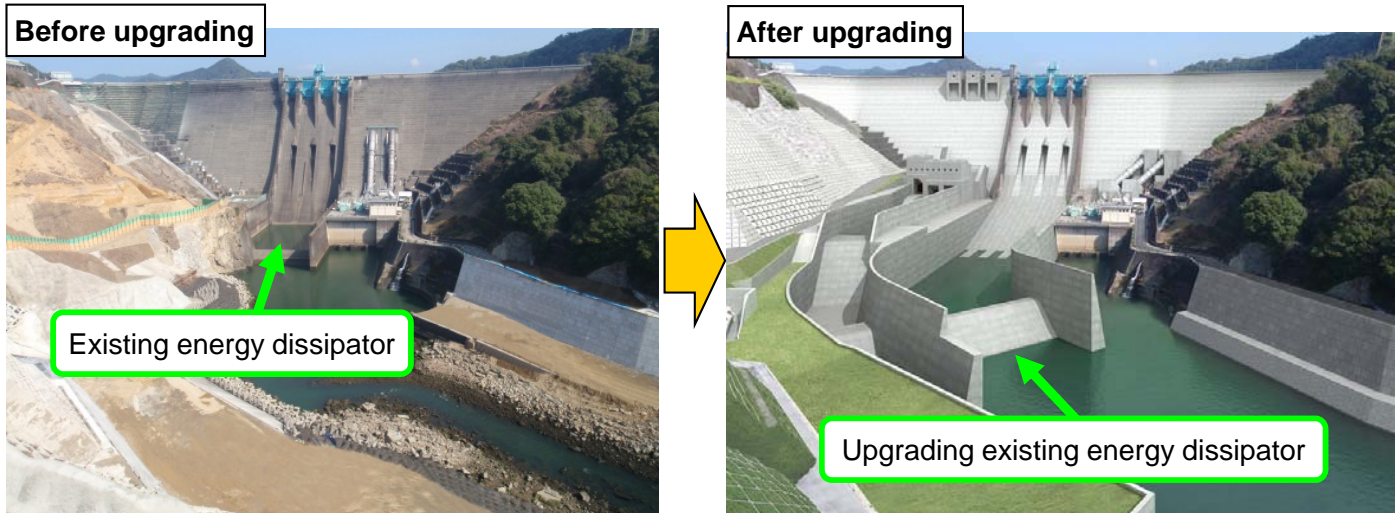

Fig.3-3 Tsuruda Dam
- Tsuruda Dam in Kagoshima Pref.(Fig.3-3)